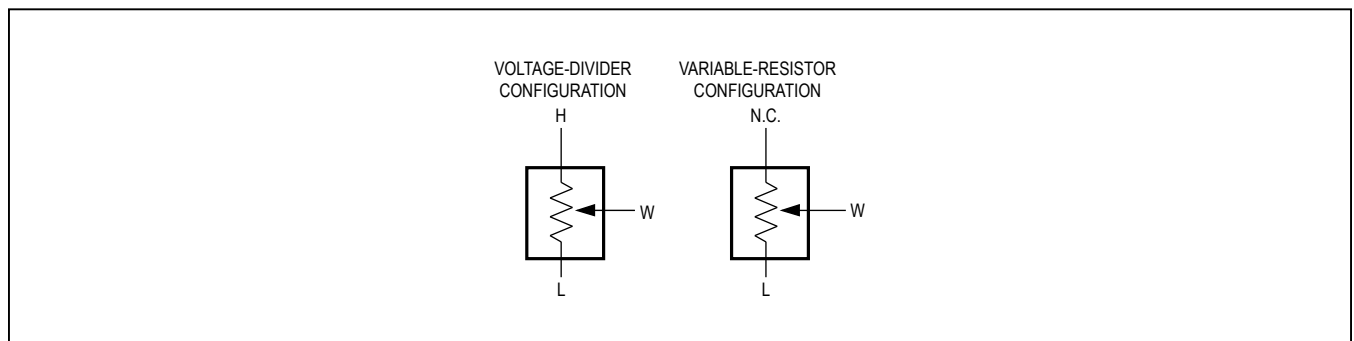

Figure 1. Voltage-Divider/Variable-Resistor Configurations
**Note 2:** DNL and INL are measured with the potentiometer configured as a voltage-divider (Figure 1) with  $H = V_{DD}$  and  $L = GND$ . The wiper terminal is unloaded and measured with an ideal voltmeter.
**Note 3:** R-DNL and R-INL are measured with the potentiometer configured as a variable resistor (Figure 1). DNL and INL are measured with the potentiometer configured as a variable resistor.  $H_{-}$  is unconnected and  $L_{-} = GND$ . For  $V_{DD} = +5V$ , the wiper terminal is driven with a source current of  $400\mu A$  for the  $10k\Omega$  configuration,  $80\mu A$  for the  $50k\Omega$  configuration, and  $40\mu A$  for the  $100k\Omega$  configuration. For  $V_{DD} = +2.6V$ , the wiper terminal is driven with a source current of  $200\mu A$  for the  $10k\Omega$  configuration,  $40\mu A$  for the  $50k\Omega$  configuration, and  $20\mu A$  for the  $100k\Omega$  configuration.